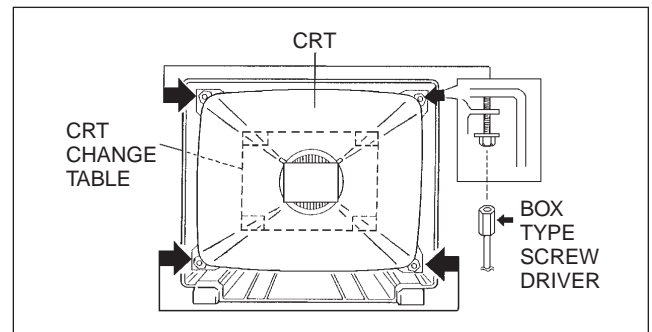

Fig.5
- (2) While keeping the surface of CRT down, mount the TV set on the CRT change table balanced well as shown in Fig. 5.
- (3) Remove 4 screws marked by arrows with a box type screwdriver as shown in Fig. 5.